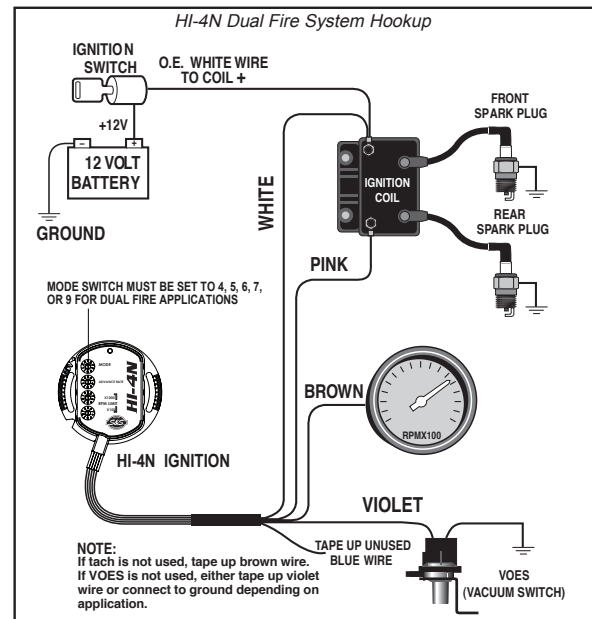

Figure 1
(sometimes called Wasted Spark) is designed to use the stock ignition coil on most applications. **Refer to Figure 1.**
2. Refer to **Figure 1, 2, or 3** depending on your application. Connect the HI-4N white wire and switched +12 volt wire to Coil + (positive) terminal.
The OE vacuum operated electrical switch (VOES) is an open circuit when vacuum is below the setting of the switch. Lighter bikes generally have a VOES that opens at 3-5 inch-Hg, while the VOES used in heavier bikes such as touring models and on high performance engines, open at 6-7 in Hg. In low load operation when vacuum is above the VOES switch point, the VOES closes and grounds the vacuum input on the module. When this condition exists, the module uses the High Vacuum or Full Advance curve which provides more advance. When engine is under a load with throttle partially to fully open, manifold vacuum is reduced and the VOES opens the circuit, causing the module to switch to the Retarded Curve with less advance. This is designed to prevent knock on acceleration or under heavy loads, but allows full advance at cruising speeds, improving driveability and fuel economy. Connect the VOES to the HI-4N violet wire as shown in **Figures 1, 2, or 3**.
This includes most models prior to 1985. Fuel economy and driveability will be improved if you install a VOES and connect it to the HI-4N violet wire as shown in **Figures 1, 2, and 3**. We recommend you use H-D® VOES P/N 26566-91 or S&S/Viola V-twin P/N 550-0399 for lighter bikes with stock to mild engines and S&S/Viola V-twin P/N 55-1248 for touring and high performance applications. If a VOES is not used, the violet wire may be grounded to use the Full Advance curve, or taped up to use the Retarded curve, depending on the application and timing requirements of the engine.